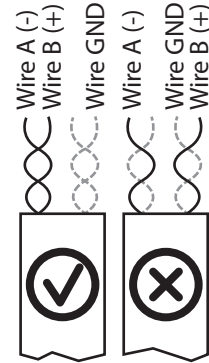

Figure 40: Assignment of twisted-pair wires
- When connecting wire + and wire -, observe the wire pairing (Figure 40)